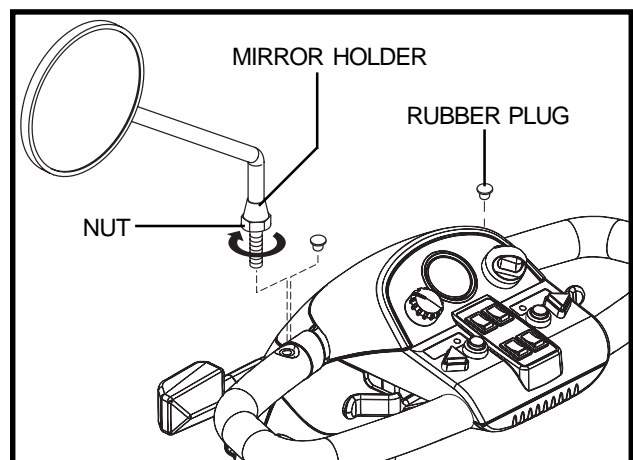

Figure 16. Mirror Installation and Positioning
**To install the mirror (see figure 16):**